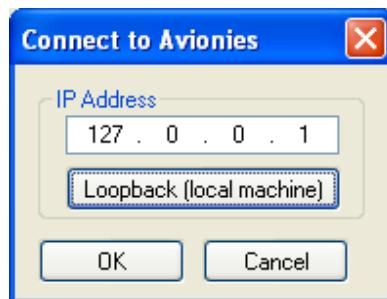

Figure 7-14 Connection window to Avionics
10. A dialog box will pop up (see Figure 7-14) where the IP address of the computer running Avionics may be specified. If Avionics is running on the same computer running the Virtual Cockpit, click the **Loopback** button and press **OK** to connect to Avionics.